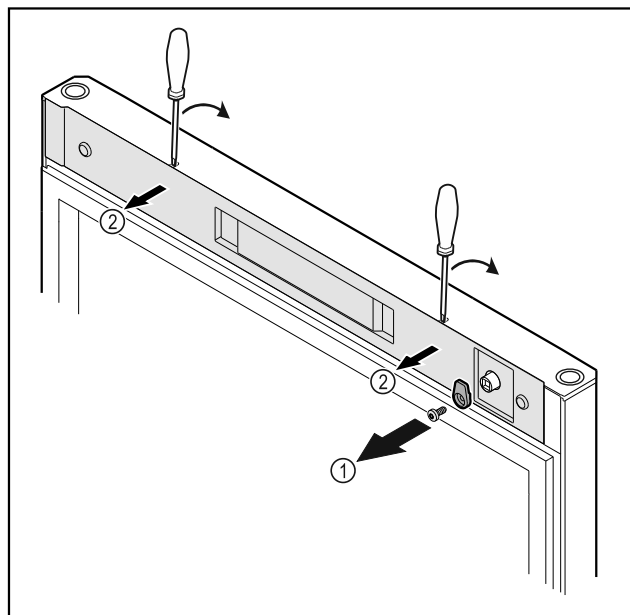

Fig. 19
- ▶ Unscrew the door latch Fig. 19 (1).
- ▶ Unlatch the cover Fig. 19 (2) with a small screwdriver and remove it.